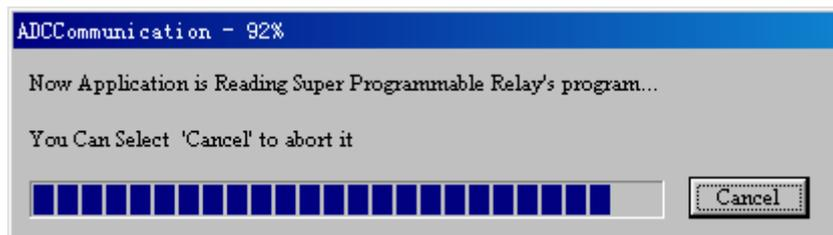

Fig 4.20 Write Process Graph
d. Display update course during update process, shown as fig 4.20: